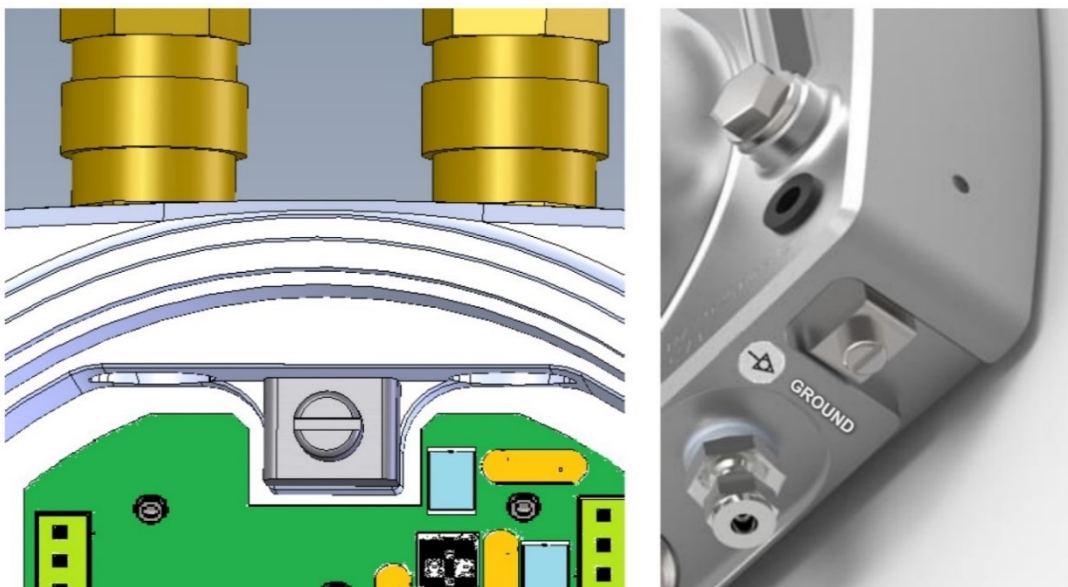

Figure 5.4: Grounding inside connection box (FE) and outside of the device (PA)
There is another functional earth point (FE) in the connection box, see Figure 5.4.